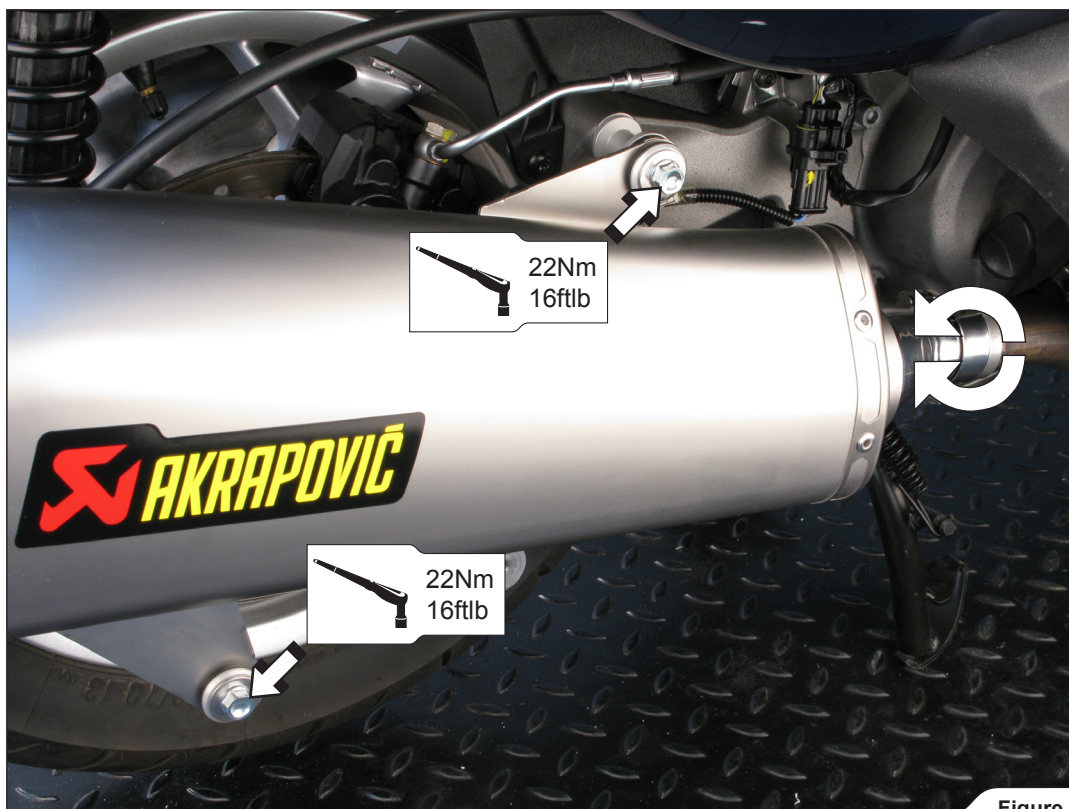

Figure 6
- Carefully slide the muffler with link pipe onto the outlet side of the stock header pipe. Rotate the link pipe inside the muffler's inlet, until the muffler's brackets align with the two stock threaded muffler's brackets. Tighten the muffler's bracket bolts to the specified torque (Figure 6).